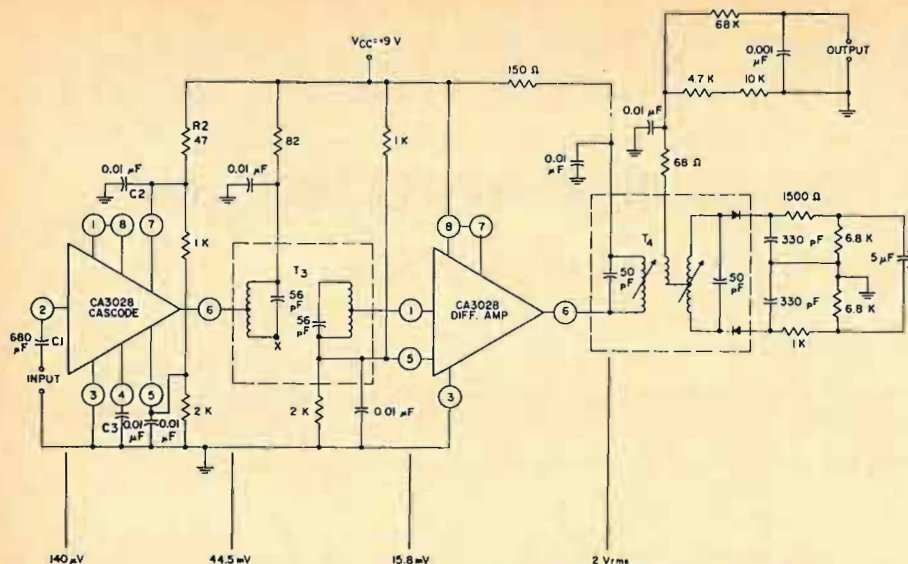
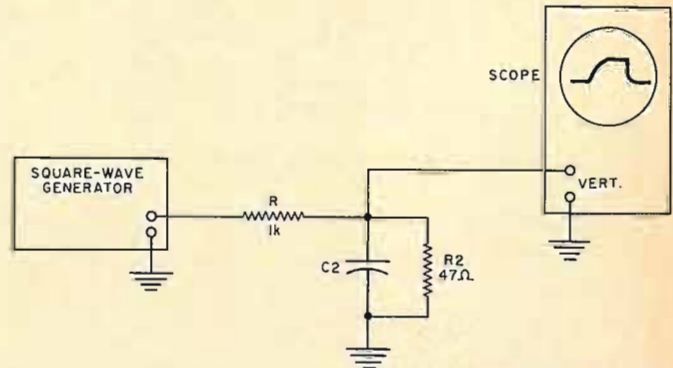

Fig. 1. A typical 10.7-MHz i.f. strip employing a pair of integrated circuits.
Fig. 6. Test-equipment setup to check capacitor C2 in Fig. 1.
Fig. 1. (A) An unbiased tape is inherently non-linear. (B) When a.c. bias is added in various amounts to the d.c. (signal), the curves are as shown. In this case, the d.c. remains while the a.c. decreases. (C) Same as (B) except that both d.c. and a.c. decrease, simulating actual tape recorder. (D) Output rises with increasing bias to a peak then falls off. (E) Output vs bias current at a number of frequencies using unequalized (flux-sensitive) system, showing the shift required in the bias for maximum high-frequency sensitivity.
Fig. 1 shows two IC's in a 10.7-MHz i.f. strip, a typical application in an FM tuner or, with a frequency change, in a TV i.f. section. It would be very difficult, if not impossible, to troubleshoot this circuit without removing components. Yet we will demonstrate that all parts can be tested without unsoldering any connections, without damaging the IC's, and with reasonable speed. The basic philosophy in any IC troubleshooting technique is to assume that the IC's are good and check all external components first.
Returning to the problem of troubleshooting the i.f. circuit of Fig. 1, we use the test arrangement of Fig. 6 with  $R = 1000$  ohms. The risetime is measured as  $22 \mu\text{s}$  and the value of  $C_2$  is therefore  $0.01 \mu\text{F}$ . The peak amplitude of the waveform in his case would be approximately 50 mV for a one-volt peak input. This is the result of the approximate 1:20 ratio between  $R_2$  and  $R$ . Figs. 3A and 3B show actual scope traces for this test. Fig. 3A is the applied square wave and Fig. 3B is the voltage across  $C_2$ .